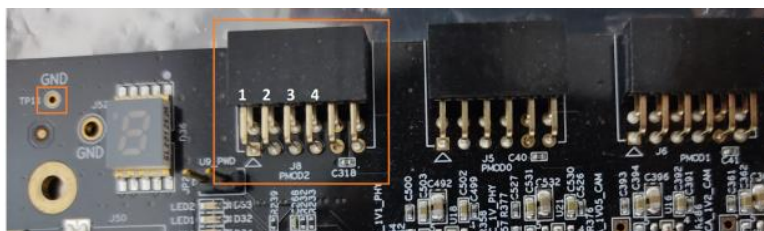

Figure 7.48. Certus NX Board - SPI Connection
- e. Connect the GND pin to the GND port of the Certus NX Board as shown in Figure 7.48.